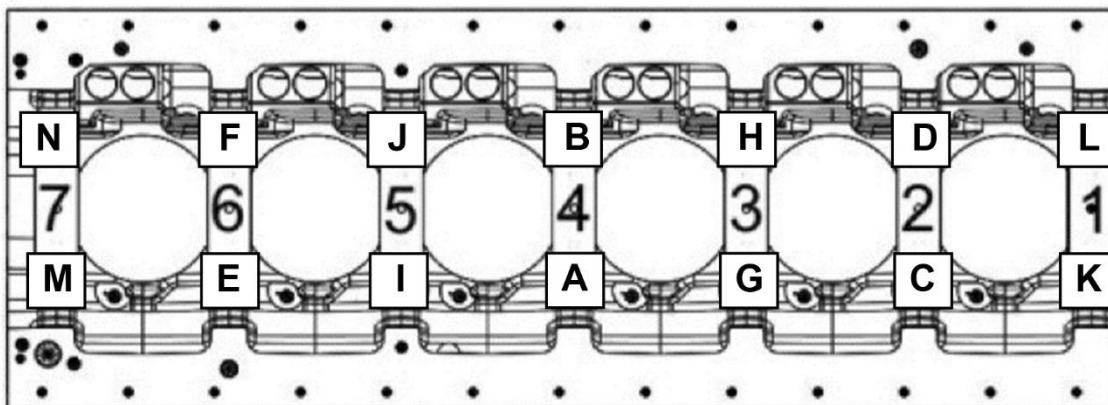

Figure 112.
- Tighten the main bearing bolts (Figure 112) in alphabetic order (A – N) to 59 lb-ft.
- Tighten the main bearing bolts (Figure 112) in alphabetic order (A – N) to an angle of 60°.
- Tighten the main bearing bolts (Figure 112) in alphabetic order (A – N) to an angle of 199 ± 15 lb-ft.